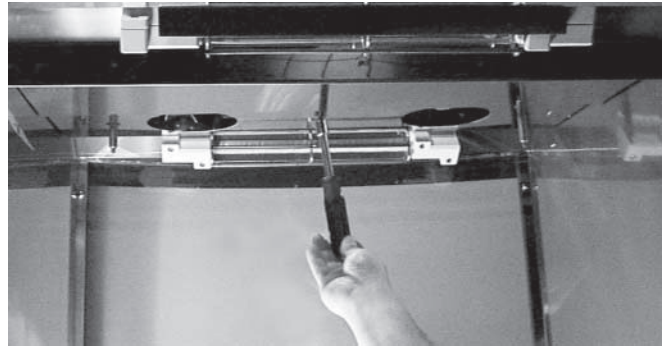
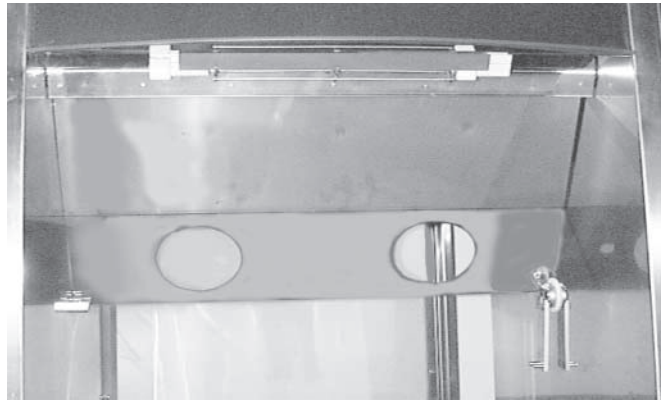

Fig. 61
Fig. 62
- Using a $\frac{7}{16}$ " nutdriver, remove the center nut that secures the element cover (Fig. 61). Allow the element cover to swing down toward you (Fig. 62).